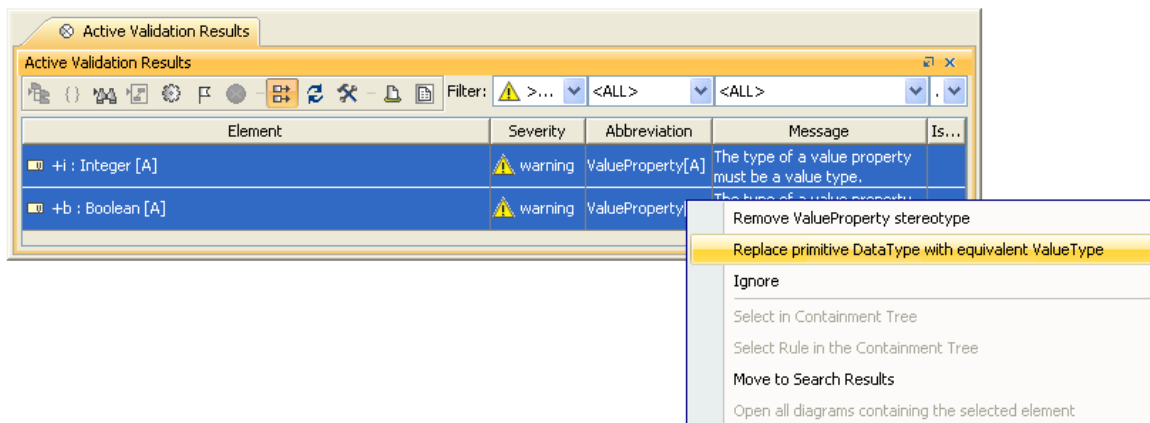

Figure 47 -- Active Validation Results Window Showing Invalid Value Properties
- In the menu, select “Replace primitive DataType with equivalent ValueType” (Figure 47).